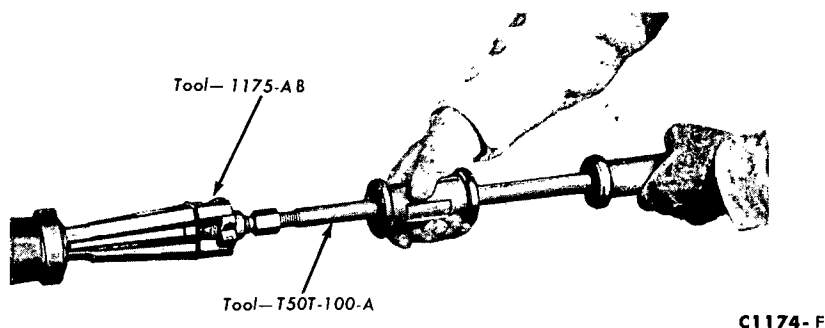
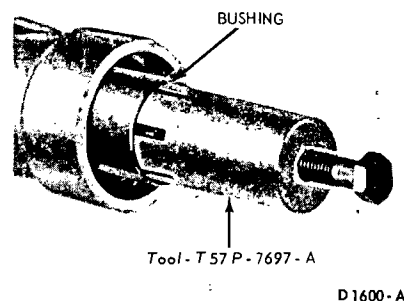

FIG. 26—Removing Extension Housing Seal
FIG. 27—Removing Extension Housing Bushing
2. When only the rear seal needs replacing, carefully remove it with a tapered chisel or the tools shown in Fig. 26. Remove the bushing as shown in Fig. 27. Use the bushing remover carefully so that the spline seal is not damaged.